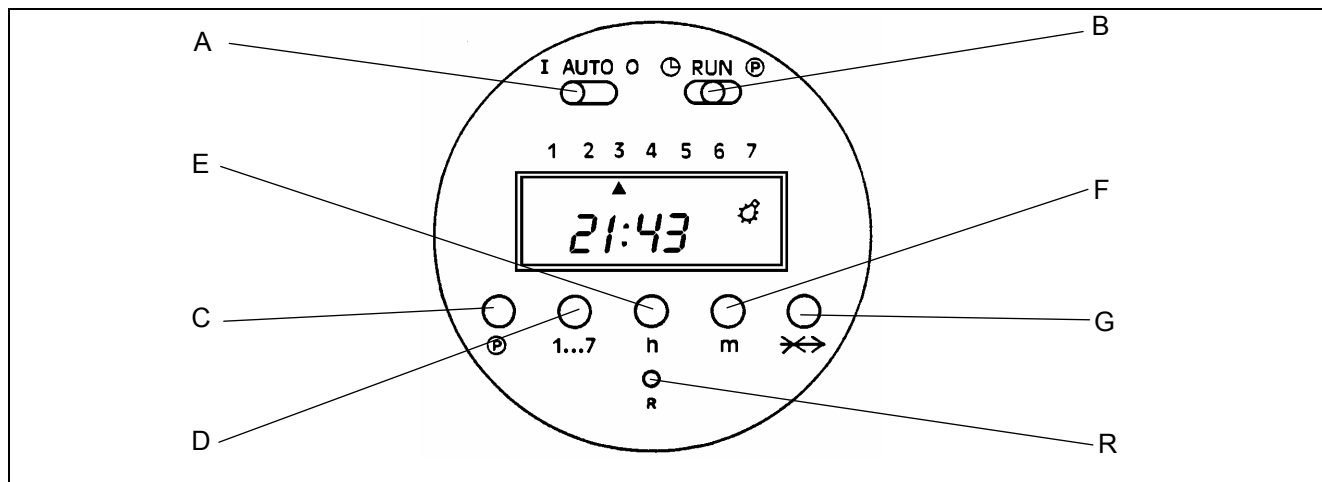

Figure 32 - PROGRAMMABLE TIMER
For all models 3002, 4002, 5002 and 8002 make sure that the "A" commutator of the programmable timer (see Figure 32) is in position I in case the unit is required to operate under the control of the room thermostat or in position AUTO in where the unit is required to operate by means of the programmable timer.
For all models equipped with time programmer (3002, 4002, 5002 and 8002) the unit can temporarily be stopped by turning the "A" commutator to the O position. (see Figure 32).
- C) Press the **Ⓟ** button (reference C - Figure 32). On the right side of the display will appear number 2 without the light symbol indicating that the OFF switching time is to be set.
- A) Move the right selector (see ref. B in Figure 32) in **P** position. Press the **P** button and select the programme it has to be changed.
- B) Press button **P** and button SKIP at the same time (see ref. G in Figure 32) for at least 2 seconds and the set programme will be cleared.
- Move the **B** selector (see Figure 32) to **RUN** position.
- Press the SKIP key (see G in Figure 32) to skip the actual program. The function is shown on the display by the symbol of a crossed arrow (SKIP symbol).